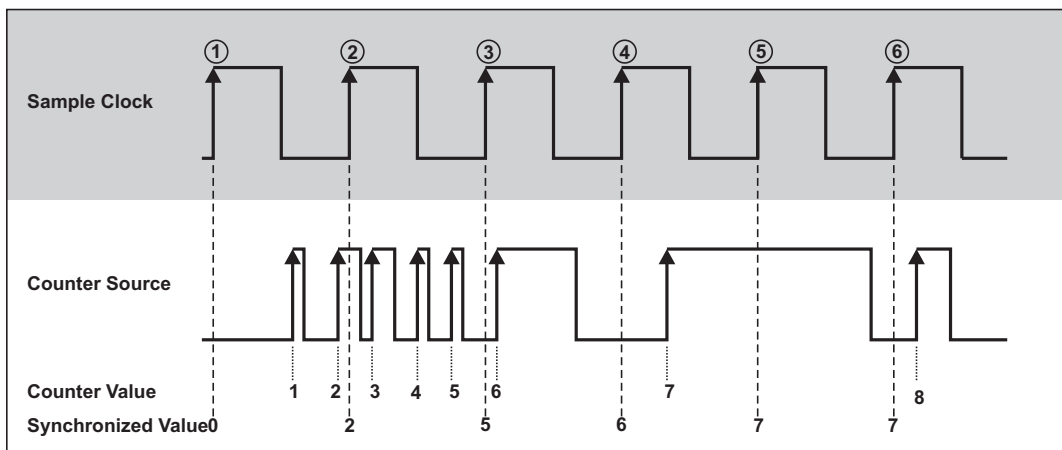

Figure 3-3: Event Counting
Figure 3-3 shows an example of event counting where the counter counts eight events on *Counter Source*. *Synchronized Value* is the value read by the DEWE-ORION-1624 board at *Sample Clock* (encircled numbers in the figure, e.g. ①, ②).